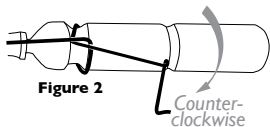

Figure 2
- While inserting the battery, rotate the battery counterclockwise. The wire of the front loop will ride the battery head and fits itself well inside the neck of the battery. (Figure 2)